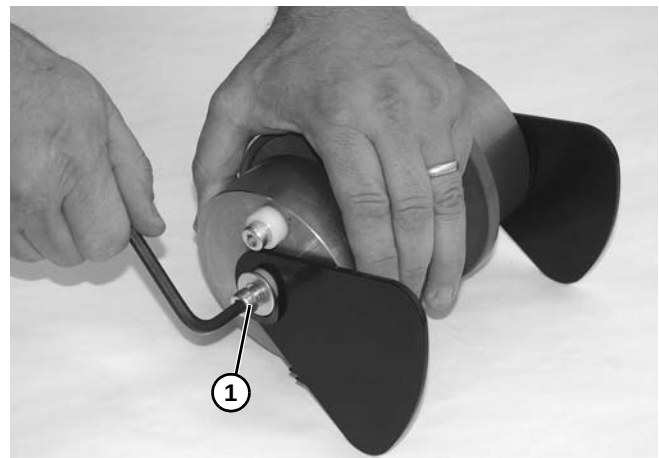

Figure 97
6. Remove socket head screw (**Figure 97, item 1**) from end of idler pulley assembly.